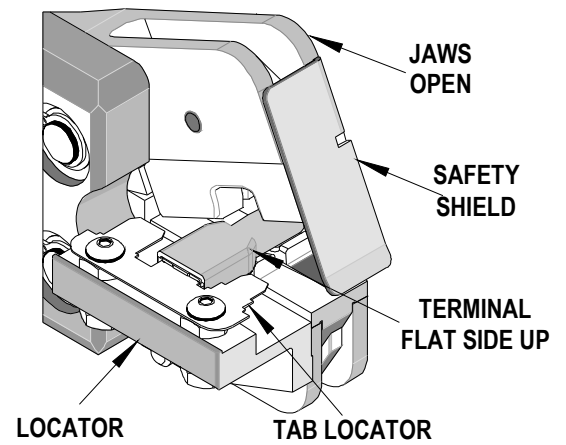

Figure 1
2. Insert the wire into the terminal. Push the terminal and wire onto the tab locator all the way to the stop in the proper color-coded nest. The barrel of the terminal should be down with the flat side facing up. See Figure 1.